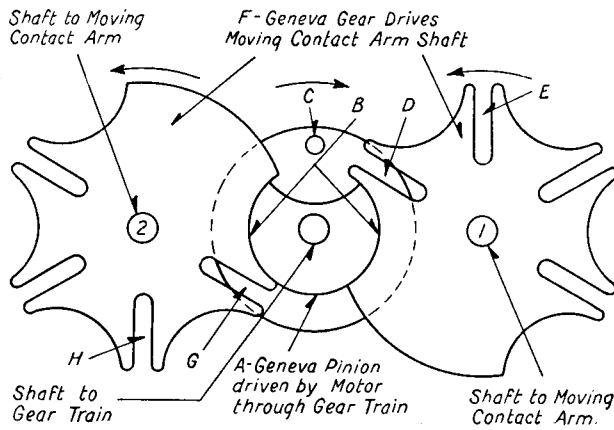

Fig. 10—Schematic Operation of Tap Changer Driving Mechanism
The tap changer is operated by Geneva gears attached to the drive shafts. See Fig. 10. The Geneva pinion is driven directly through reduction gears by a small motor. For one tap change, there is one complete revolution of the Geneva pinion, but only a sixty-degree motion of each Geneva gear and tap changer contact arm. The moving contact arm is locked in position during the greater part of the movement of the Geneva pinion, and therefore the motor and Geneva pinion do not have to stop in an exact position, but may drift within certain limits without moving the tap changer arms.
The schematic operation of the tap changer driving mechanism is shown in Fig. 10. Geneva pinion (A) is positively geared to the operating motor. Geneva gears (F) drive the moving contact arm shafts and are always locked at points (B) except when pin (C) enters one of the slots as (D). When pin (C) engages slots (D), the Geneva gear shaft (1) is turned one notch so that slot (E) is in the position just previously occupied by slot (D). This motion moves one of the contact arms to the next stationary contact. Following this, pin (C) enters slot (G) turning the Geneva gear shaft (2) until slot (H) is in the position just previously occupied by slot (G) and the Geneva pinion stops when the pin (C) is again in the position shown, midway between the two Geneva gears. This motion moves the other contact arm to the next stationary contact. The tap changer has now made one complete tap change and changed the voltage one  $2\frac{1}{2}\%$  step. Additional steps in the same or reverse direction are made in the same manner.